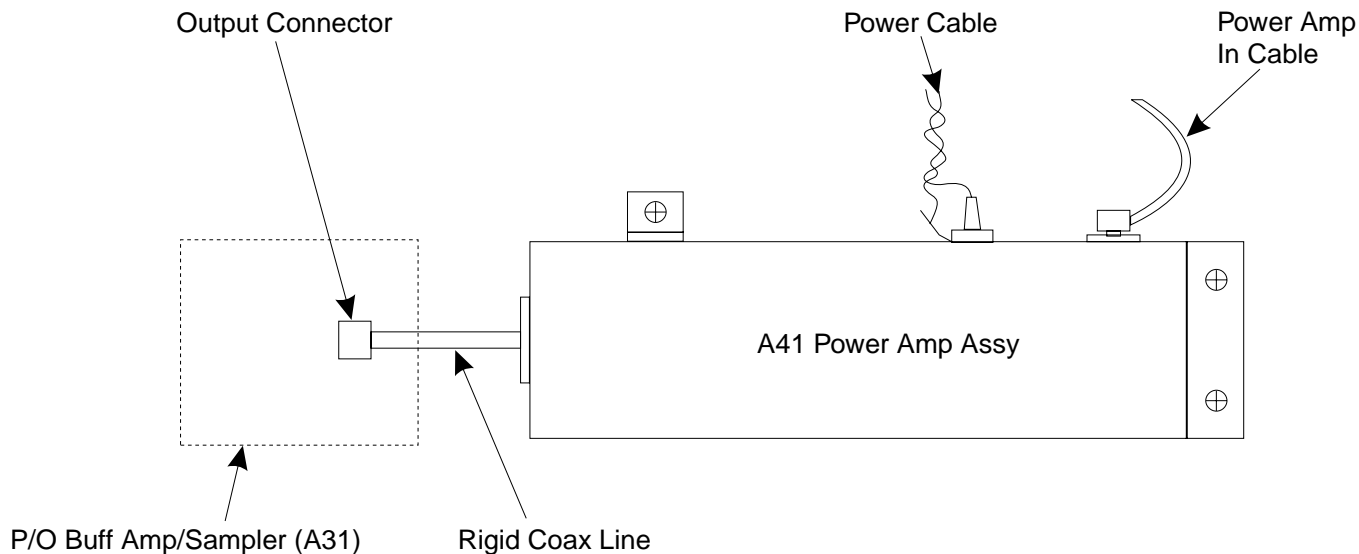

Figure 8-13. A41 Power Amplifier Assembly, Details
- Step 2. Disconnect the PWR AMP IN cable on the side of the Power Amplifier assembly; see Figure 8-13. (Pull out gently to disconnect.)
- Step 4. Disconnect the Power Amplifier from the Buffer Amplifier/Sampler by carefully pulling up on the connector end of the rigid-coaxial line from the Power Amplifier. (See Figure 8-13.) Carefully lift the assembly from the Test Set Module.